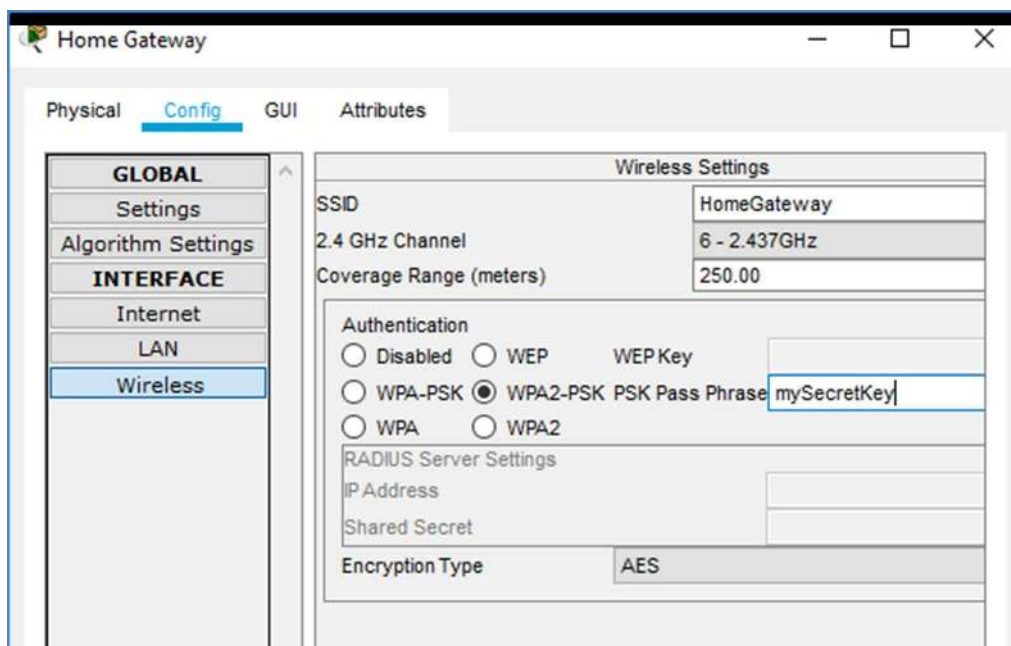

Figure 7.8: Configuring Wireless Settings on the Home Gateway
- Select the **Wireless** option to note the SSID and **WPA2** passphrase (Figure 7.8). These are crucial for any wireless IoT device that needs to join the network securely.